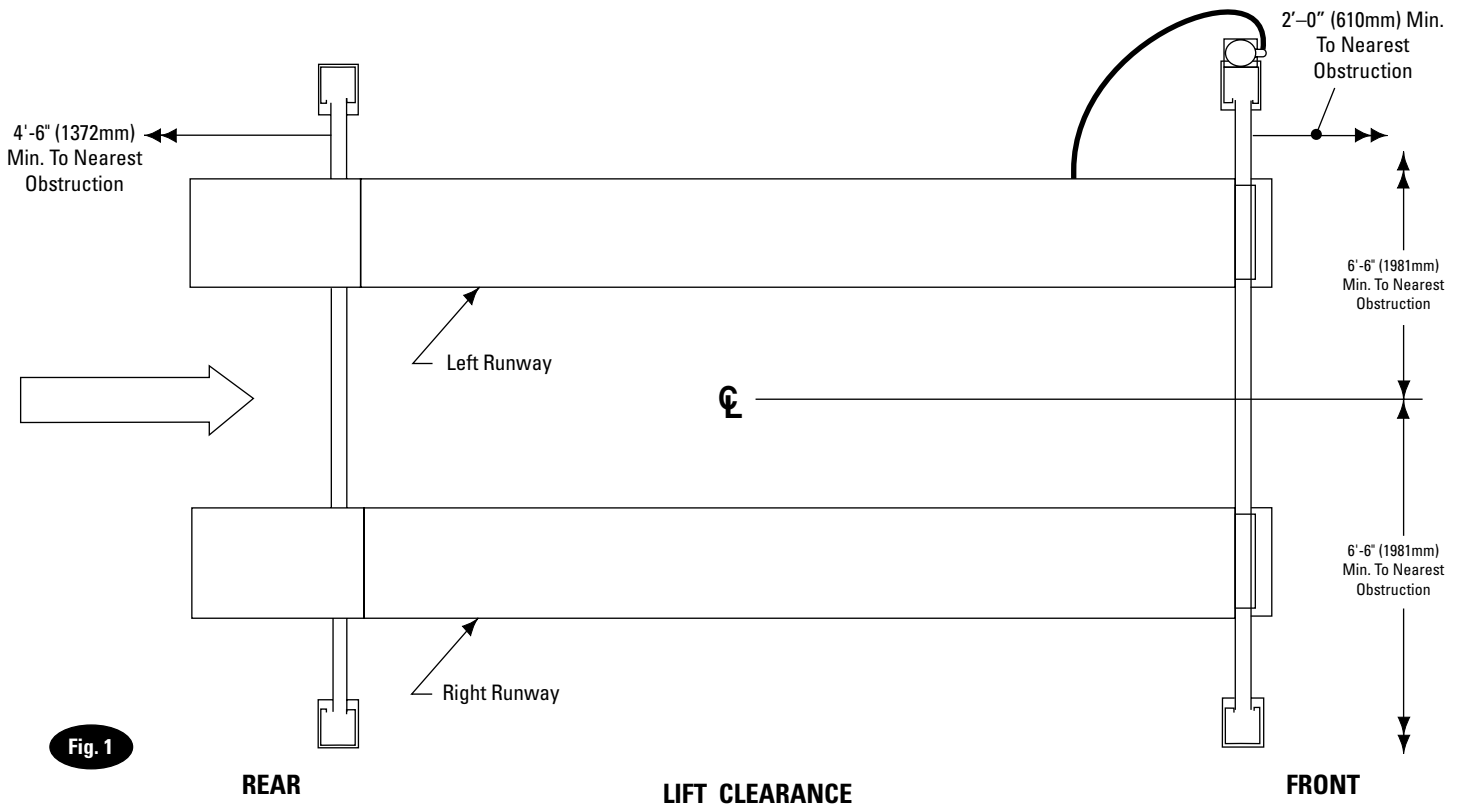
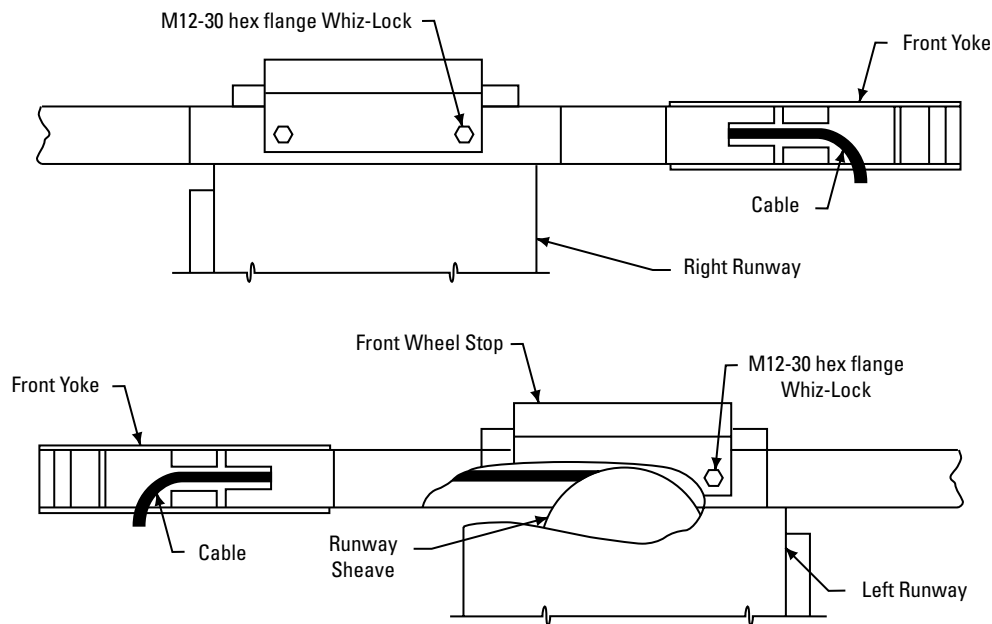

Fig. 1
Fig. 4
1. Lift Location: Use architects plan when available to locate lift. Fig. 1 shows dimensions of a typical bay layout. For power unit at right front, rotate lift 180°, leaving ramp/chocks and wheel stops in original position. Lift floor area should be level.
- C. Position front and rear yokes at respective ends of runway, Fig. 1. The opening in the side of the yokes should be lined up with the cable sheaves in the runway ends. Feed cable ends through yoke openings, Fig. 4. Do not assemble sheaves in yoke ends at this time.
With the openings in the yoke tube side lined up with the left runway ends, align the two (2) holes in the top of the front yoke tube with the slots in the runway end plates and the holes in the front wheel stops. Bolt runway to the yoke using four M12-30 hex flange bolts, Fig. 4. Repeat with the right runway.